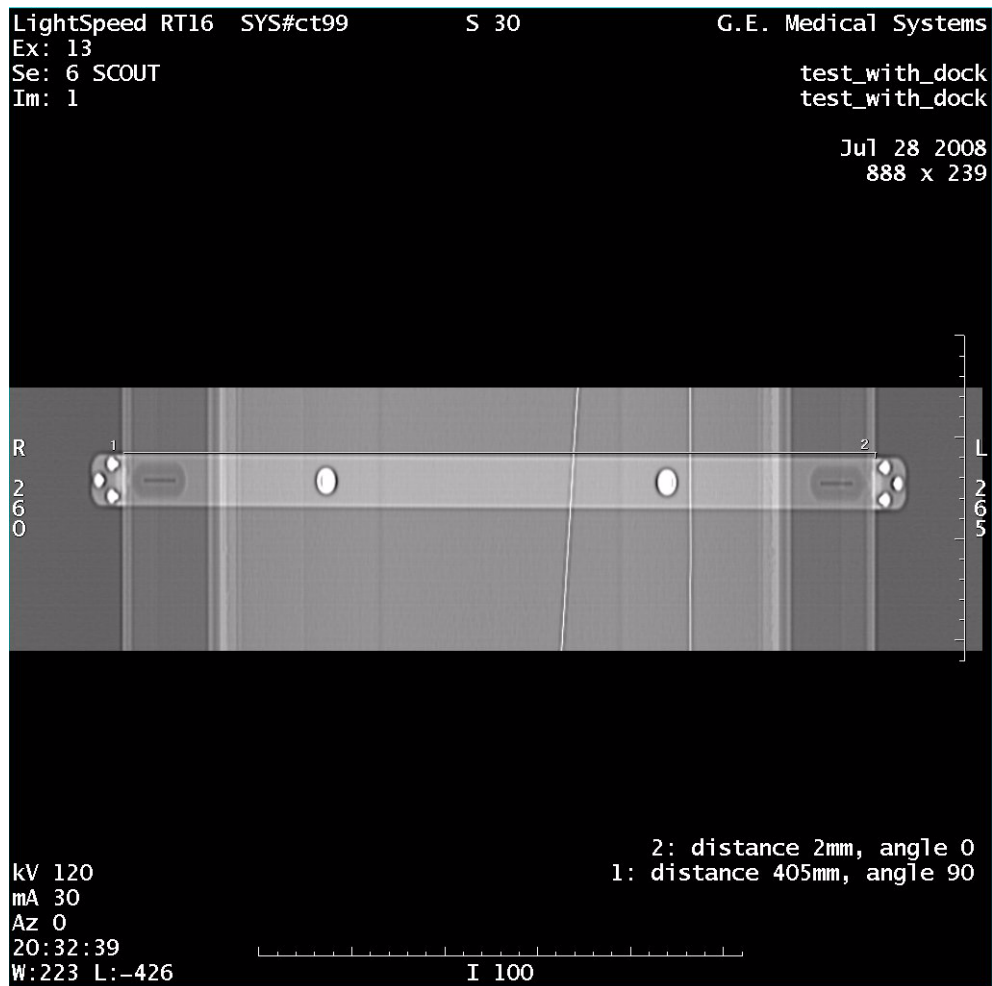

Figure 6-3 Lock bar image
- 7.) On the Image Works desktop, in the Browser, select and display the image which is just generated, see Figure 6-3